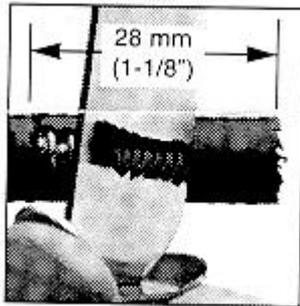

Figure C-1 Cutting cable skin with safety knife
- 3) Cut the skin of the cable at 28 mm away from the connector with the fast cable cutter and the safety knife, as shown in Figure C-1.